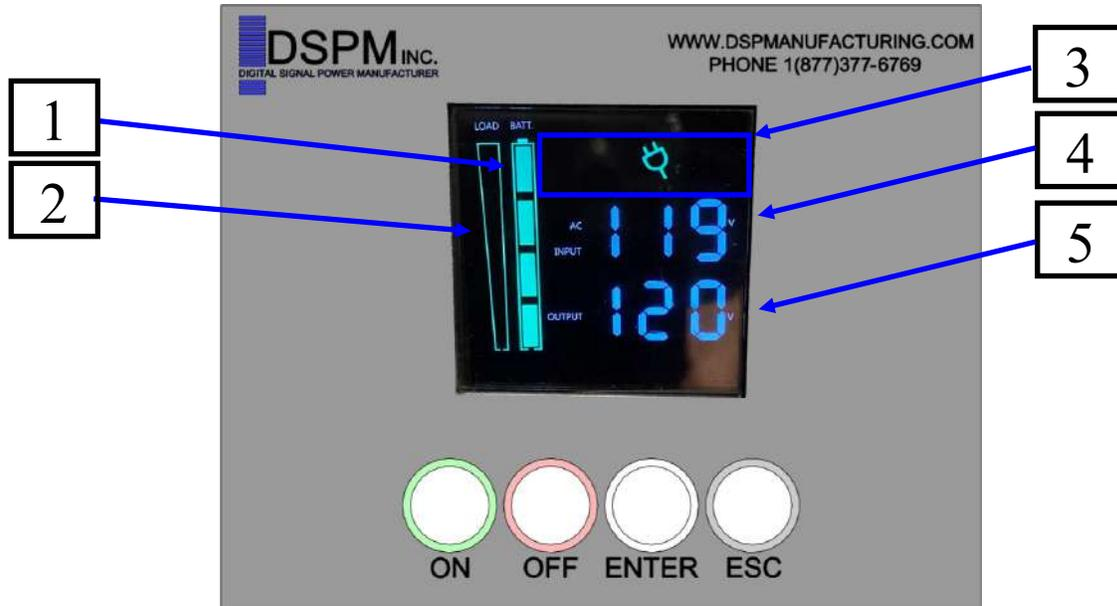

Figure 8
3. The Processor will continue starting the system and LCD (see Figure 8) will sequence
Refer to Figure 8 for descriptions of the Front Panel display's buttons and LCD.
- 6.1.3.2. The Processor perform a series of checks (These checks will be indicated by the display panels (see CH 5 Figure 8).
- 6.1.4. After the cycling of the LCD screen, press the "ON" key (see Figure 8) until the unit gives a beep and input relay closes.